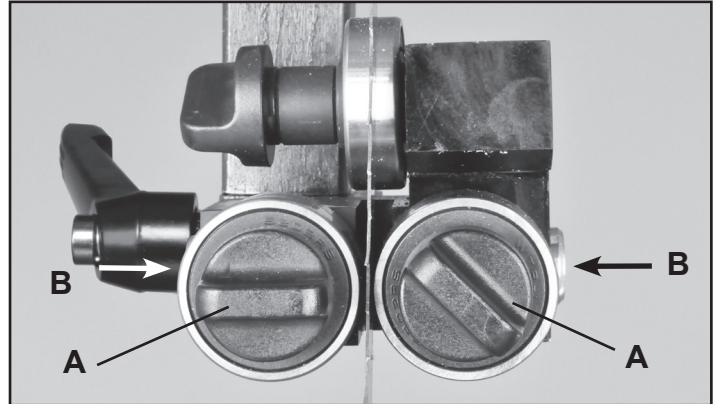

FIGURE 22 NOTE: Blade Guard removed for photo purposes
1. Position the right and left roller guides relatively close to the blade. First, loosen their front Lock Handles (#21C, Fig 22, A). The Guide Shafts (#25C) that hold the guide bearings are spring loaded! To move the guides towards the blade, simply push the ends of the guide shafts (B), or use the front lock handles to pull the guides towards the blade. Lock the guides in place with the front handles. Fig. 22.